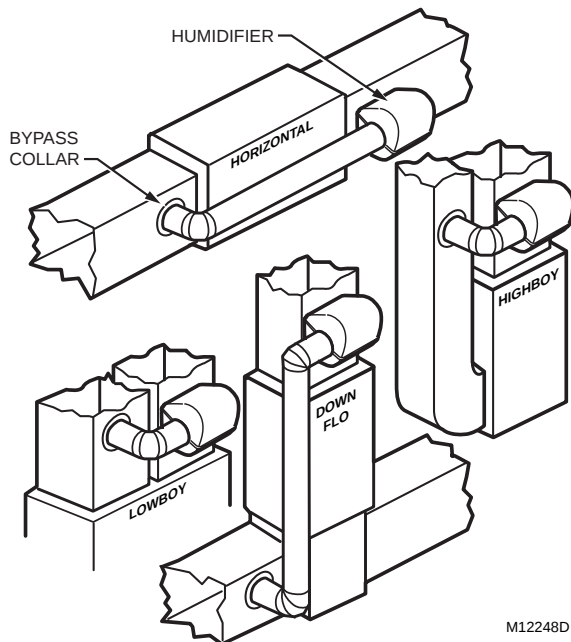

Fig. 1. Typical Humidifier installation locations.
1. Select a location to mount the Humidifier on the supply (warm air) or return duct. See Fig. 1.
2. Select a location for the Bypass Collar on the opposite duct. See Fig. 1. (The Humidifier is designed to allow Bypass Duct mounting on either side of the Humidifier. See Fig. 2.)